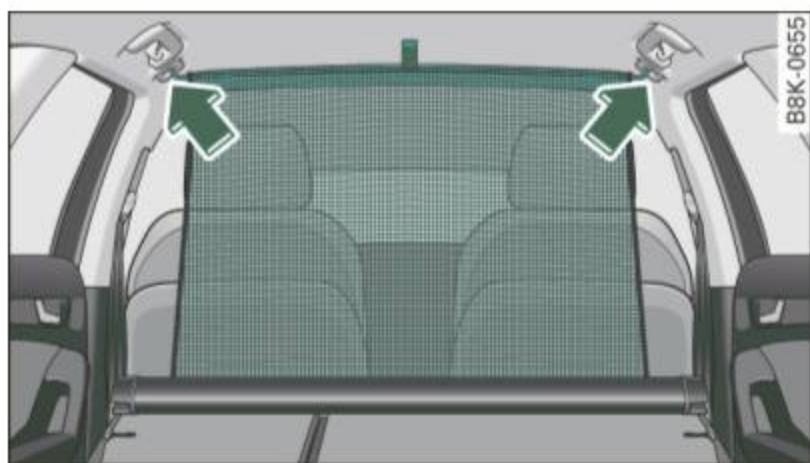

Fig. 85 Partition net hung at the front
- Hang the crossbar in the front eyelets **over the front seats** ⇒ *fig. 85 -arrow-*.